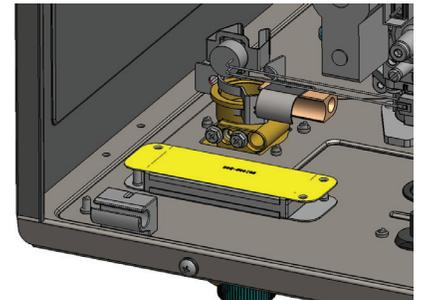

Figure 4 - Air inlet plate orientation options
- 9** Locate the air inlet plate as shown in Figure 4.
**NOTICE:** Figure 4 has some elements removed for clarity.